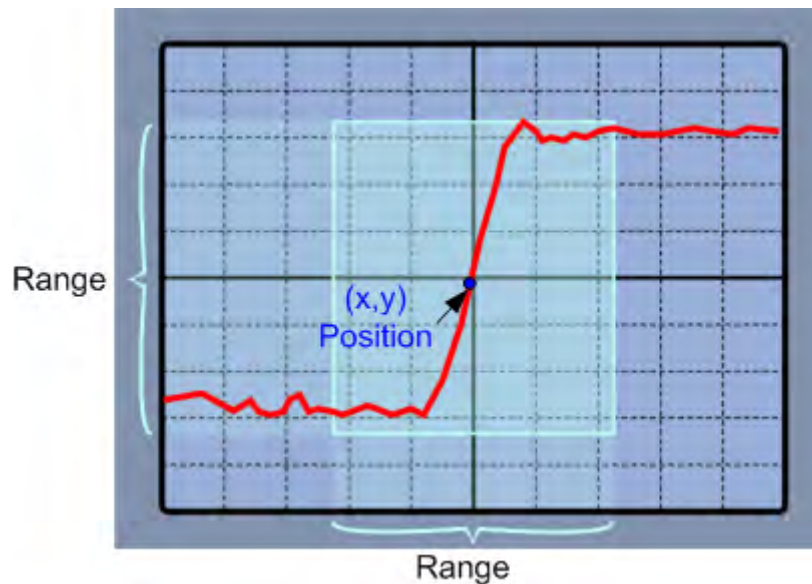

Fig. 5-2: Numeric zoom using position and range
4. Under "Position", define the y-value of the center point of the zoom area (see figure 5-2).